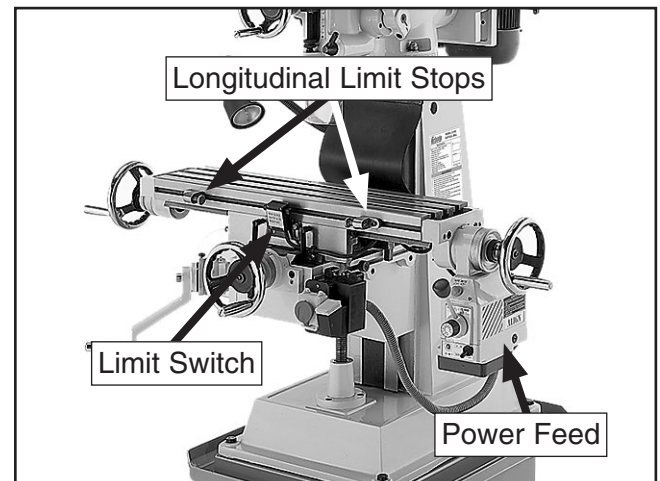

Figure 20. Longitudinal power feed, limit stops, and limit switch (Model G3103 only).
2. Position the longitudinal limit stops (see **Figure 20**) along the table to confine the longitudinal distance you want the table to travel, then tighten the cap screws to secure them in place.